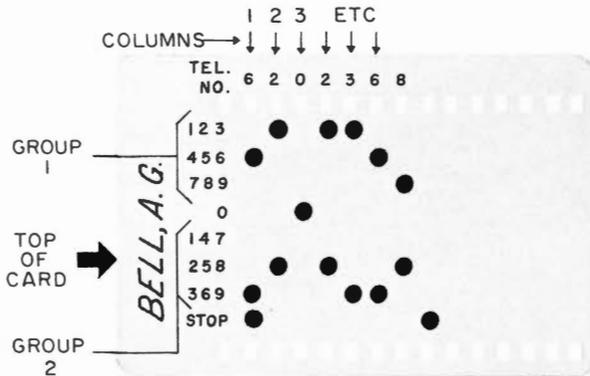

Fig. 5 - 7-Digit Card Coded for Telephone Number 620-2368 (MAIn 0-2368)
4.03 Coding instructions for cards (Fig. 5 and 6) are as follows:
1. Write the name and the desired telephone number in the spaces provided as shown in Fig. 5 and 6. Convert the two exchange letters to numbers by referring to your telephone dial. (For example, use 2 for A or B or C.)
column 1 locate the first digit of the telephone number in group 1 and punch out the perforation with a pencil or ball point pen. (In Fig. 5 the number is 6.) In the same column locate the same number in group 2 and punch out the perforation. If not already removed, punch out the STOP in this same column.